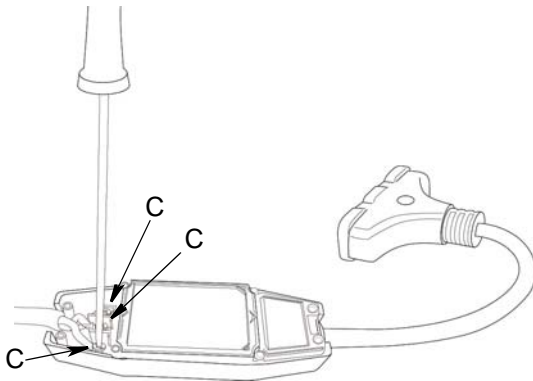

FIG. 35
3. Unscrew three Phillips #2 screws (C) and disconnect black, white, and green wires from GFCI terminals (FIG. 35).
2. Connect green wire from cord to green terminal from GFCI module. Connect black wire from cord to silver terminal. Connect white wire from cord to brass terminal. Re-tighten three Phillips #2 screws (C) (FIG. 35).